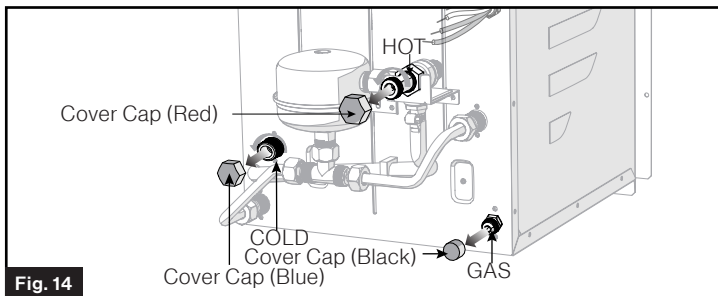

Fig. 14
2. Remove protective caps for COLD (blue), HOT (red) water connector and GAS connector from back side. (Fig. 14)